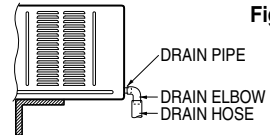

Fig. 2
3. Or connect a pipe elbow of 9/16" inside diameter to the drain pipe, then connect a drain hose of 9/16" inside diameter to the pipe elbow as shown in Fig. 2.